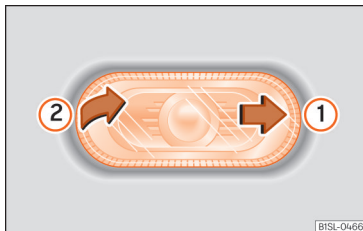

Fig. 93 Removing the side turn signal
1. With one hand move the side turn signal backwards »» Fig. 93 ①.
2. Remove the side turn signal from the chassis by leverage ②.